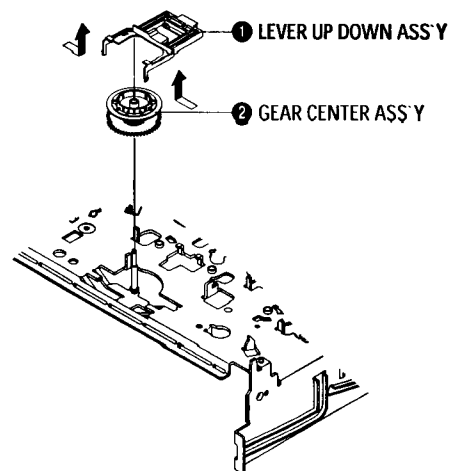

Fig. 1-21 Lever Up Down Ass'y Removal
- 1) Remove the 2 hooks in the direction of arrow as shown Fig. 1-21 and lift the Lever Up Down Ass'y ❶.
- 2) Lift the Gear Center Ass'y ❷.